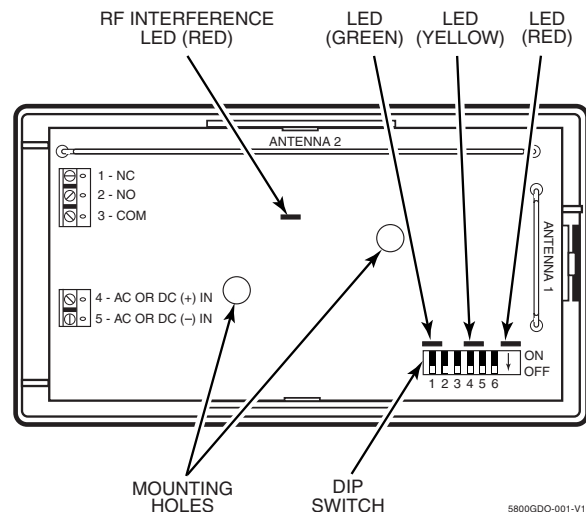

Figure 1. Connection Diagram
2. Using the 5843 base as a drill template, position in the desired location and drill two pilot holes. See Figure 1 for mounting hole location.
4. Connect desired relay switching wire to 5843 terminal 3 (COM) and terminal 1 (NC) or 2 (NO) as required by the relay. Refer to relay manufacturer's instructions to determine if it operates with a NC or NO switch.
5. Connect power wiring to the 5843's terminals. Refer Figure 1.